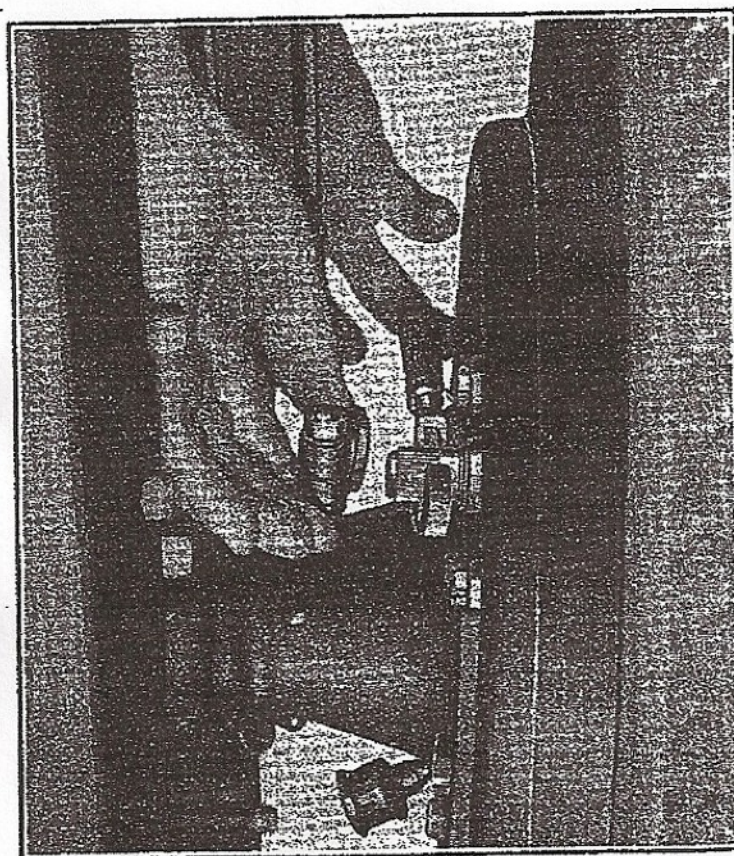

Fig. N21. Applying rear brake with pipe wrench to set cam lever to proper position
- (e) Do the same to all four brakes, using the method shown in Fig. N21 on the rear brakes.